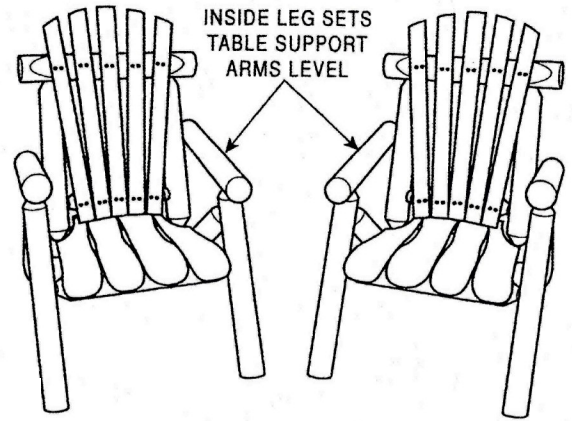

Figure 6
STEP 4 Set chairs in upright position and verify that you have assembled the chairs correctly. You should have 2 chairs each with an inside leg set, as shown in figure 6.